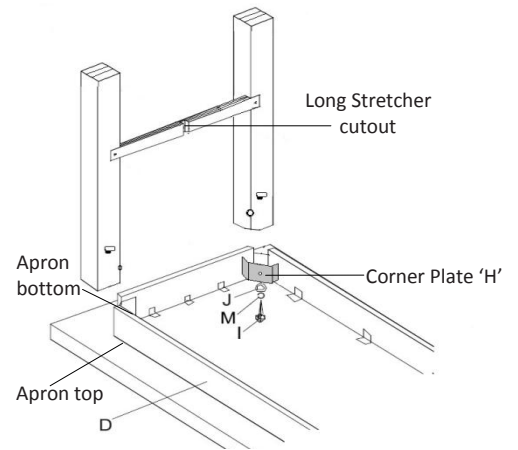

Figure 3: Leg & Short Stretcher
3. Attach the assembled legs with pre-drilled holes facing Corner Plates 'H' with 5/16" Flat Washers 'J', Lock Washer 'M' and Hex Bolt 'I' with Lock washer placed directly under bolt head as shown in Figure 3. Please see the **NOTE** on the next page for tables with Backrest/Headrest option.
**NOTE:** Make sure that the long stretcher cutout is facing inwards as shown in Figure 3 and 4.